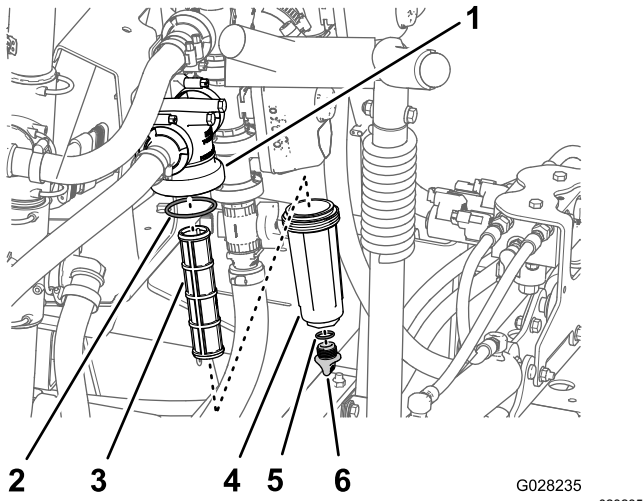

Figure 91
9. Install the plug into the bowl hand tight (Figure 91).
2. Align a drain pan under the pressure filter (Figure 91).
3. Rotate the drain plug counterclockwise and remove it from the bowl of the pressure filter (Figure 91).
4. Rotate the bowl counterclockwise and remove it from its filter head (Figure 91).
5. Remove the old pressure-filter element (Figure 91).
6. Check the O-ring for the drain plug (located inside the bowl) and the O-ring for the bowl (located inside the filter head) for damage and wear (Figure 91).
7. Install the new pressure-filter element into the filter head (Figure 91).
8. Install the bowl onto the filter head hand tight (Figure 91).